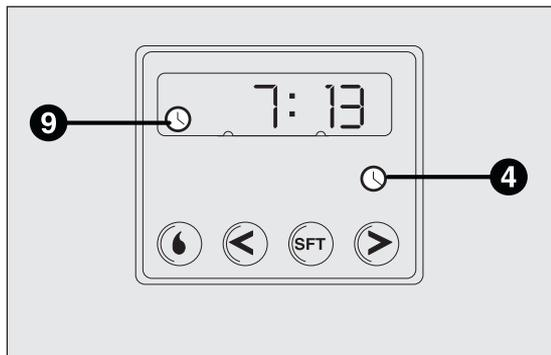

fig. 59
- Press button 4: the display and warning light 9 will switch on fig. 59;
Reading the current time fig. 59